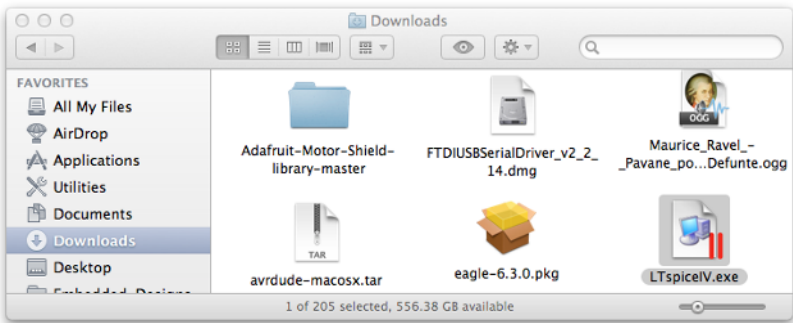

Figure 4-10. Finding the downloaded library
1. Find the downloaded library in the *Downloads* folder. OS X will usually save the ZIP file in this folder by default (see Figure 4-10). If your browser doesn't automatically open the ZIP file, double-click it to extract it.